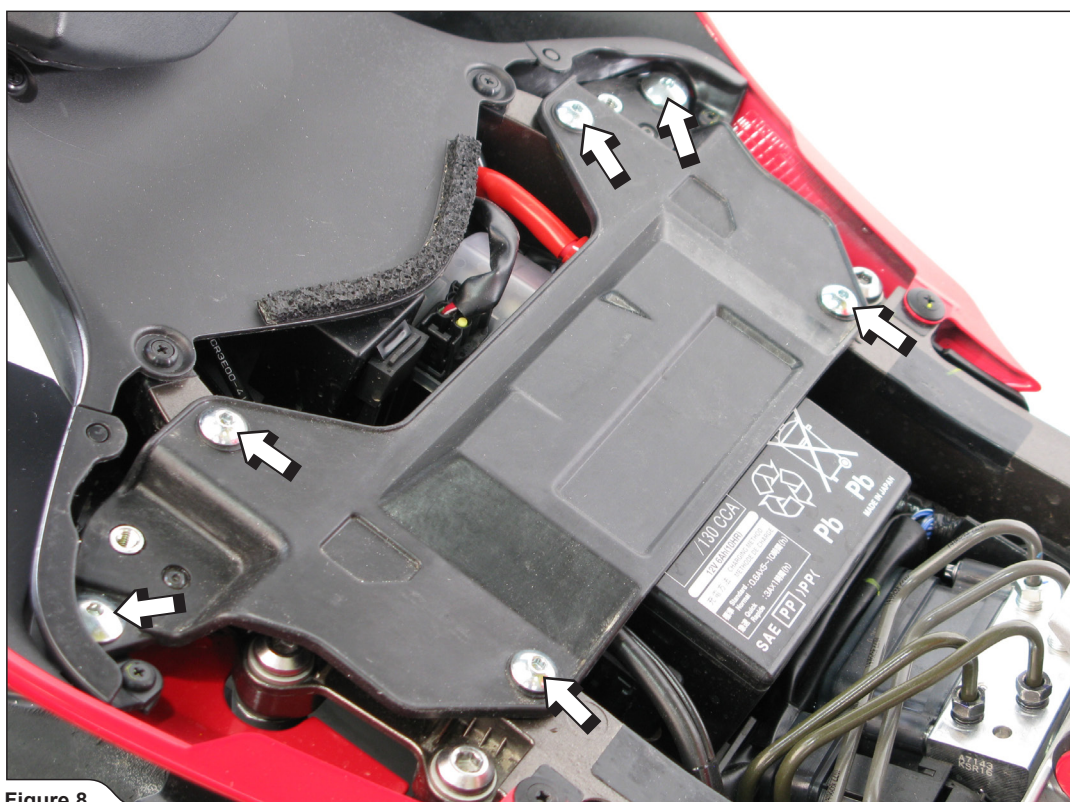

Figure 8
7. Unscrew marked bolts and remove plastic battery cover off the motorcycle (**Figure 8**).